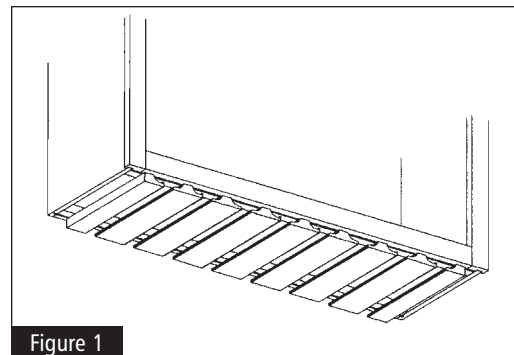

Figure 1
- 2** Using pre-drilled holes in mounting strips (four per strip), pilot drill 1/8" diameter holes to a depth of 3/8" and fasten to the bottom of the cabinet with (8) #8 x 1" Phillips screws. See Figure 1.